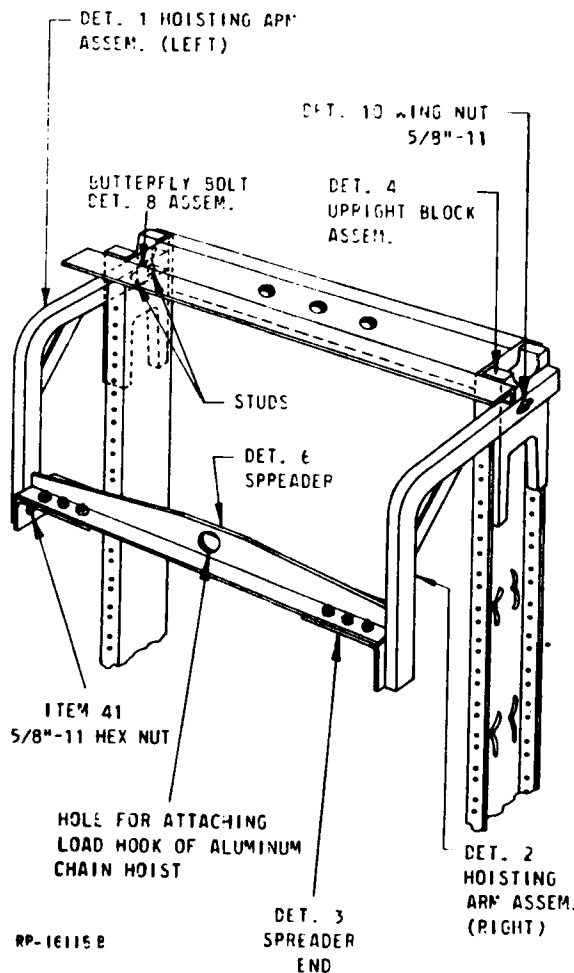

FIG. 2 ATTACHING R-3787 HOISTING FIXTURE TO EQUAL FLANGE UPRIGHT
4.321 For frames having equal flange uprights use the short butterfly bolt, Detail 8, to fit into the uprights oval hole. Attach the Detail 3 spreader ends to the Detail 6 spreader with the Detail 30 captive bolts. Insert the bolts into the spreader holes furthest from each end. See typical assemblies in Figures 2 and 3.
4.41 Attach the R-3787 Hoisting Fixture through the oval hole in the tops of the bay uprights as shown in Figure 2, and Figure 6.